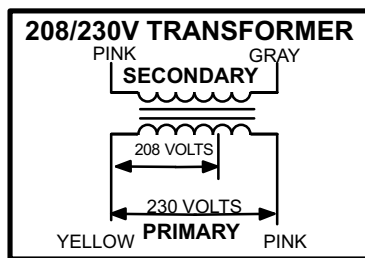

FIGURE 3
All use a single line voltage to 24VAC transformer mounted in the control box. Transformer supplies power to control circuits in the unit. The transformer is rated at 70VA and is protected by a 3 amp (auto) fuse F1. The 208/230 (Y) voltage transformers use two primary voltage taps as shown in figure 3, while 460 (G) and 575 (J) voltage transformers use a single primary voltage tap.